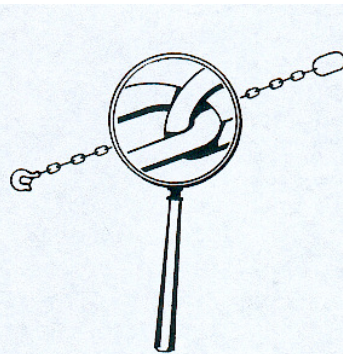

fig.90
- **NEVER** use slings without having checked their suitability beforehand (fig.90).